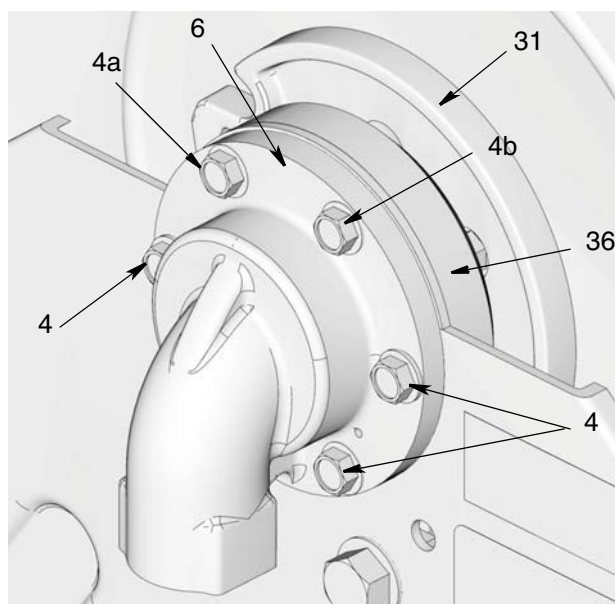

FIG. 21
4. Align shim (36) between inlet (6) and bearing retainer (35) (FIG. 21).
5. First install the top 2 bolts (4a and 4b), through the frame and inlet (6), as shown in FIG. 21. Tighten bolts just enough to hold everything in place.
6. Then install the remaining four bolts (4). Hand tighten and then torque all bolts to 25 to 35 ft. lbs (33.9 to 47.45 N•m).